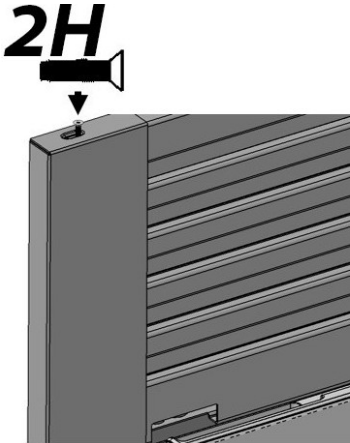

Fig. 16
- Fasten 2H screws to the Top Trim (Fig. 16) and repeat for the right hand side.